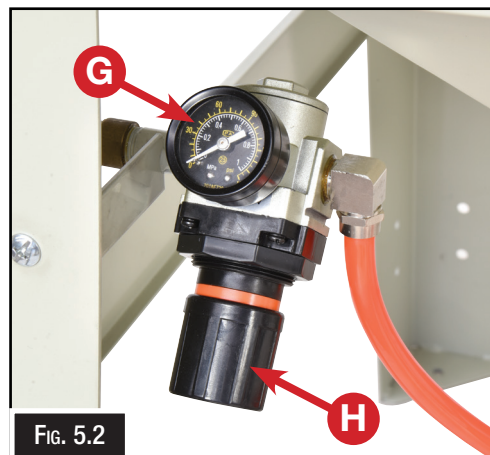

FIG. 5.2
3. **Pressure Gauge:** Displays the air pressure supplied to the machine. (Fig. 5.2)
4. **Air Pressure Adjustment:** Adjusts the air pressure supplied to the machine. (Fig. 5.2)